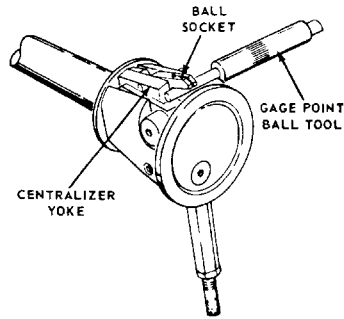

FIGURE 9
3. Depress Centralizer Yoke and insert Gage Point Ball Tool as shown in Figure 9 to prevent damage to gage when reinstalling Ball.